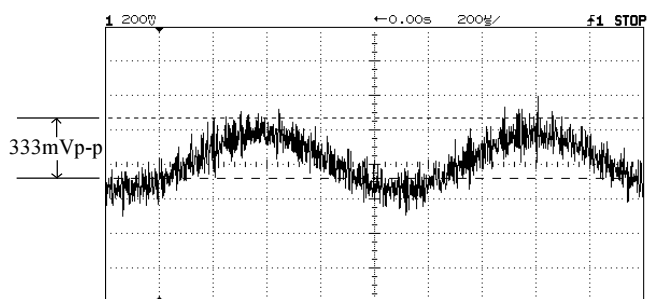

Fig. 1 - FM Level Alignment
4. Measure the 1kHz envelope (not the carrier waveform) as shown in Fig 1.